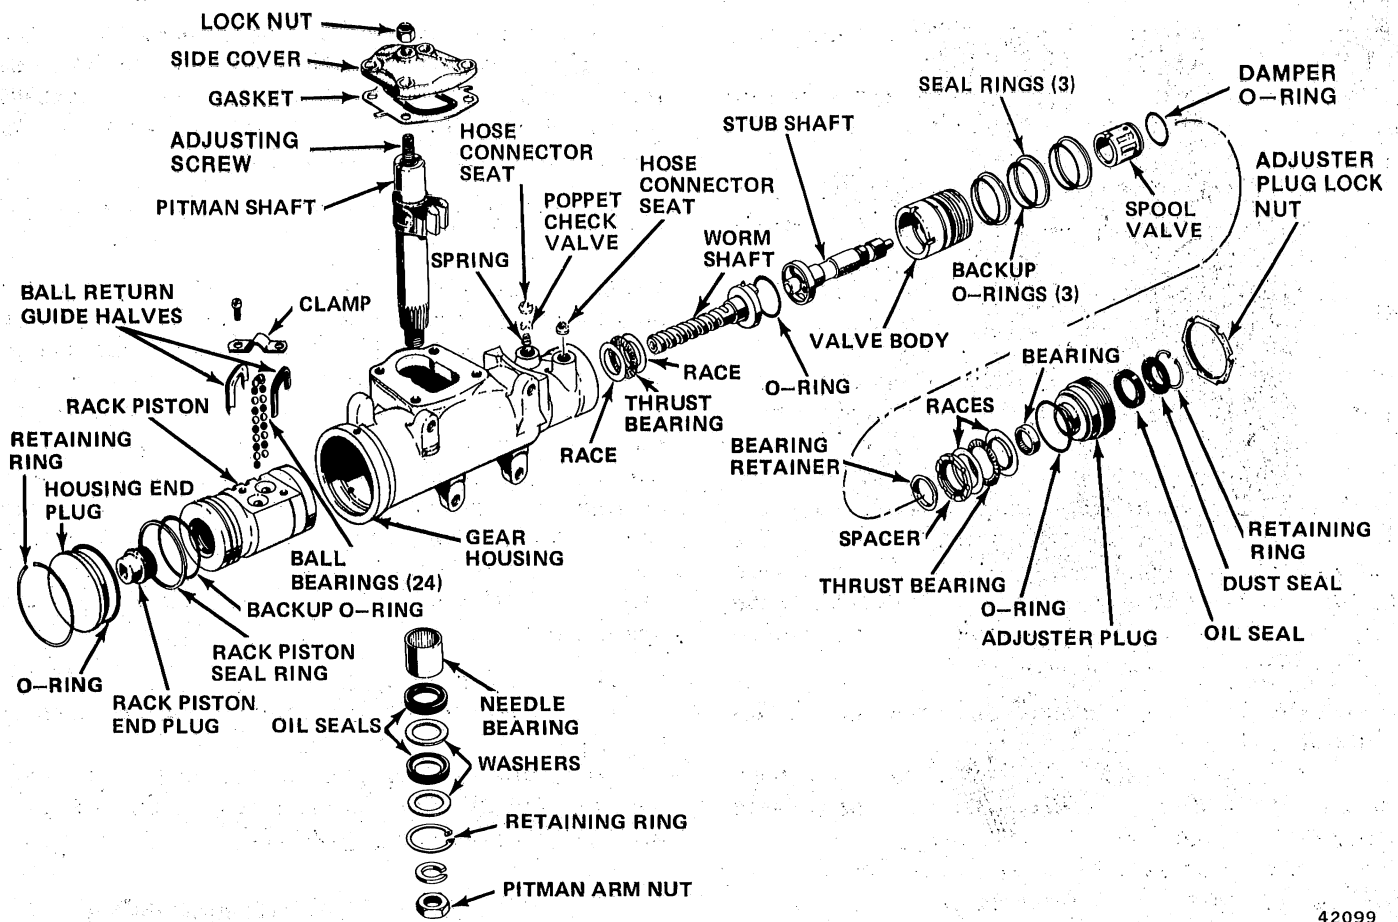

Fig. 2L-11 Power Steering Gear Assembly
- (1) Raise vehicle.
- (2) Rotate end plug retaining ring (fig. 2L-11) until one end of ring is positioned over hole in side of housing.
- (3) Remove retaining ring by inserting punch through hole in housing and unseating ring.
On Cherokee, Wagoneer and Truck models, the position of the steering gear prevents on-vehicle replacement of the end plug O-ring seal (fig. 2L-11). It is necessary to remove the gear to perform seal replacement.